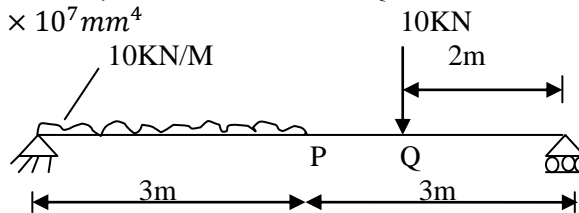

Figure 3
- Q.9 a) Determine by Macaulay's method, the deflection at P & Q in the beam shown in figure 3. 12